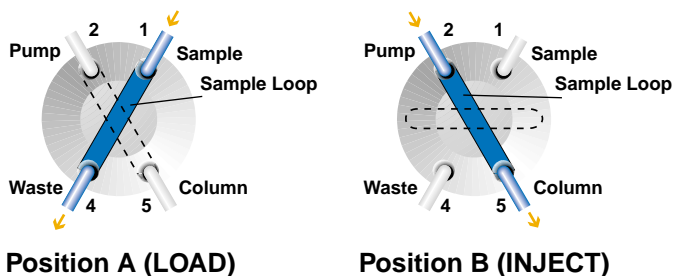
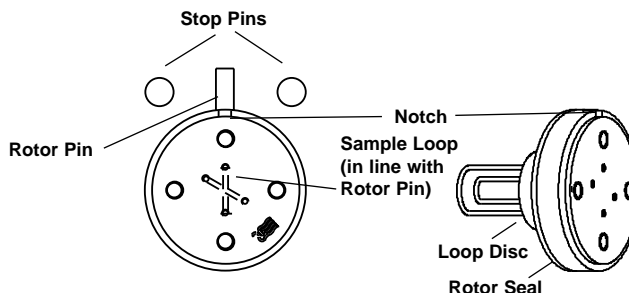

Fig. 1. Flow diagram of Model 7410.
Fig. 3. Rotor seal and loop disc orientation (viewed from the stator) in Model 7410. Model 7413 has the same orientation and accommodates a third loop.
Figures 1 and 2 show the flow diagrams of Models 7410 and 7413. Rotation of the handle 60° switches the valve from the LOAD position to the INJECT position. The dark grooves represent active flow passages and the dotted grooves represent inactive flow passages.
Figure 3 shows the rotor seal and loop disc orientation of Model 7410. The loop disc contains two loops of tubing with different lengths. One loop is the sample loop, which fills during LOAD (between Ports 1 and 4) and injects sample onto the column in INJECT (between Ports 2 and 5). The other loop is the flow passage between Ports 2 and 5 when the valve is in LOAD. Ports 1 and 4 are off-line during INJECT (see Figure 1).
To reassemble the valve, refer to Figures 3 and 4 and proceed as follows:
- Line up the notch on the rotor seal with the rotor pin (see Figure 3).